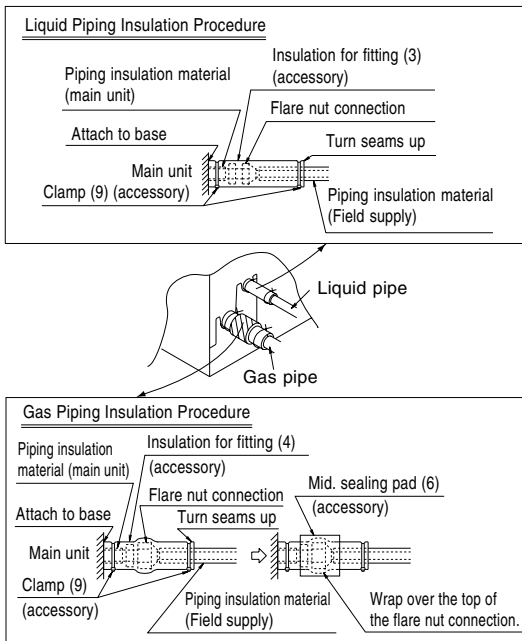

Fig. 8
- (2) After the work is finished, make sure to check that there is no gas leak.
- (3) After checking for gas leaks, be sure to insulate the pipe connections referring to Fig. 8.
- Insulate using the insulation for fitting (3) (4) included with the liquid and gas pipes. Besides, make sure the insulation for fitting (3) (4) on the liquid and gas piping has its seams facing up.
- (Tighten both edges with clamp (9).)
- For the gas piping, wrap the mid. sealing pad (6) over the insulation for fitting (4) (flare nut part).